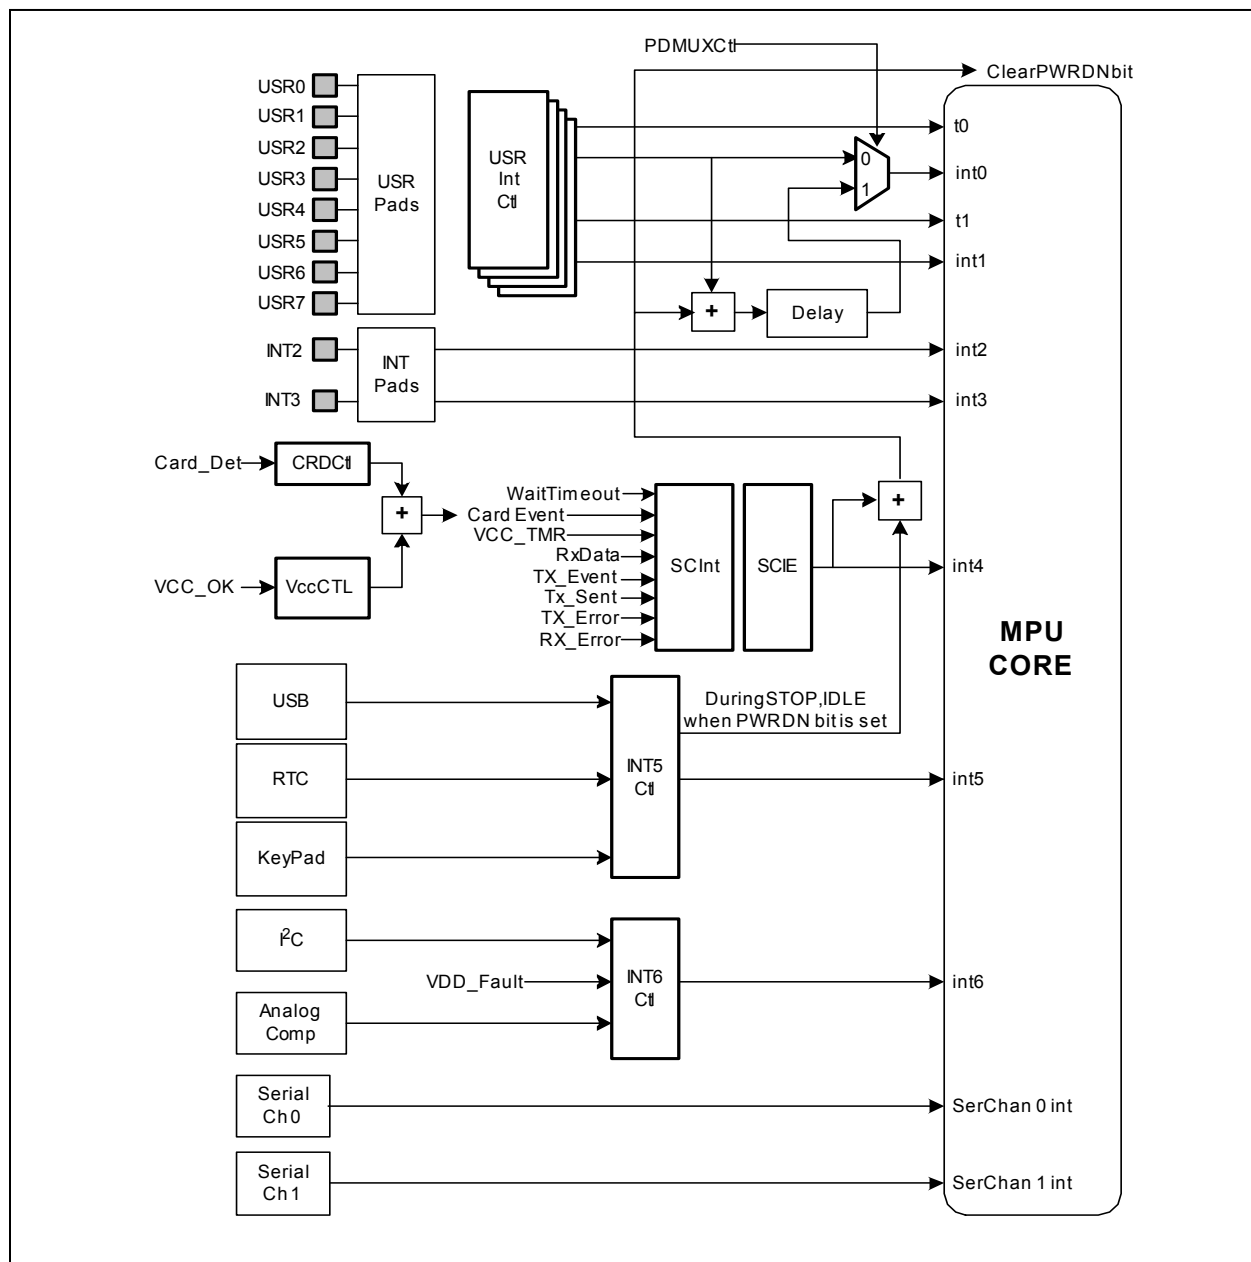

Figure 9: External Interrupt Configuration
**External interrupts** are the interrupts external to the 80515 core, i.e. signals that originate in other parts of the 73S1217F, for example the USB interface, USR I/O, RTC, smart card interface, analog comparators, etc. The external interrupt configuration is shown in Figure 9.